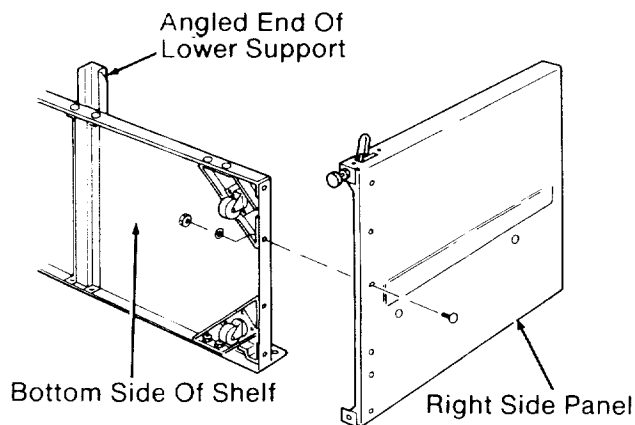

Fig. 36
10. Place the *right side panel* on the right side of the *shelf*. The *slide brackets* should be on the inside of the cabinet. (Figure 36)
11. Put bolts through the four holes along the bottom edge of the *right side panel*. Put a lockwasher and hex nut on each bolt and tighten using a 7/16 inch wrench or socket. (Figure 36)